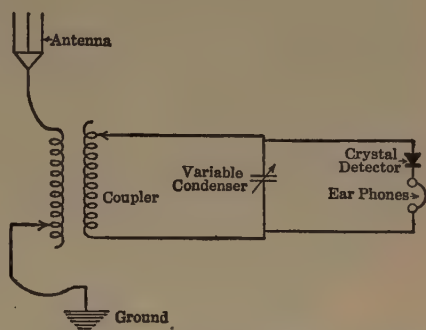

FIG. 398. — A simple crystal receiving hook-up.
**Crystal set reception.** Ether waves will be received by receiving devices that are in tune with the transmitting apparatus by which the waves are sent out. By tuning to get the right length of wire at the coupler into the aerial-ground circuit, the electric oscillations will be picked up. (See Fig. 398.) This wave or current is alternating, and so induces a similar current in the secondary; but in order to cause the telephone receiver to produce sound, this alternating current must be rectified. This is done by the detector, which allows current to flow in only one direction. In the diagram a crystal detector is indicated. Each wave, representing a dot or a dash of the code, will make a sound in the receiver, and by this means the message is read. Variations in the waves from broadcasting stations are received as reproductions of the sounds made before the microphone in the broadcasting studio. The crystal set may be used for only short-distance reception.